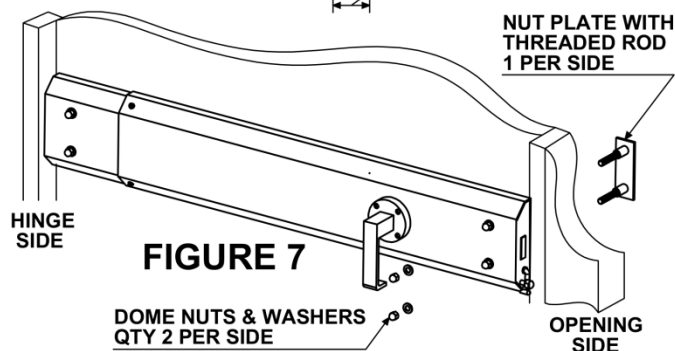

FIGURE 7
18. Fit lock to door with the two nut plate assemblies, dome nuts & washers. Tighten all nuts. Do not over tighten. (Fig. 7)